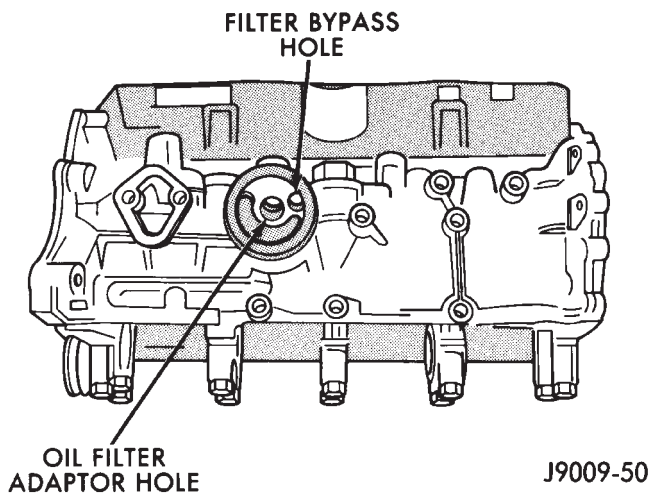

Fig. 72 Oil Filter Adaptor Hole
- The galley at the oil filter adaptor hole, the filter bypass hole (Fig. 72).